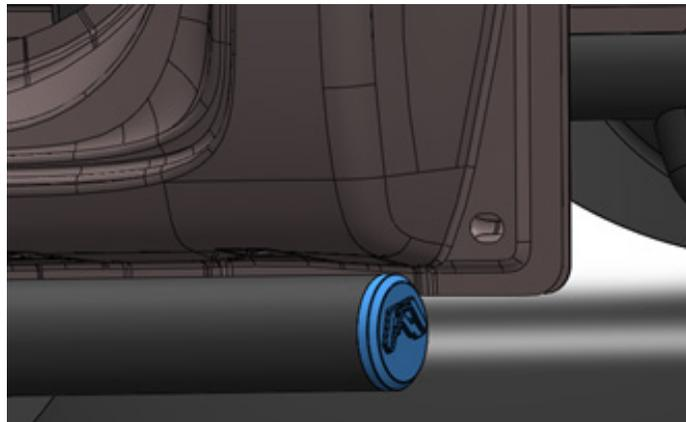

Figure 4
10. Install the four (4) rubber caps (61367) to both ends of each sidestep (22179 & 22180). (Figure 4)